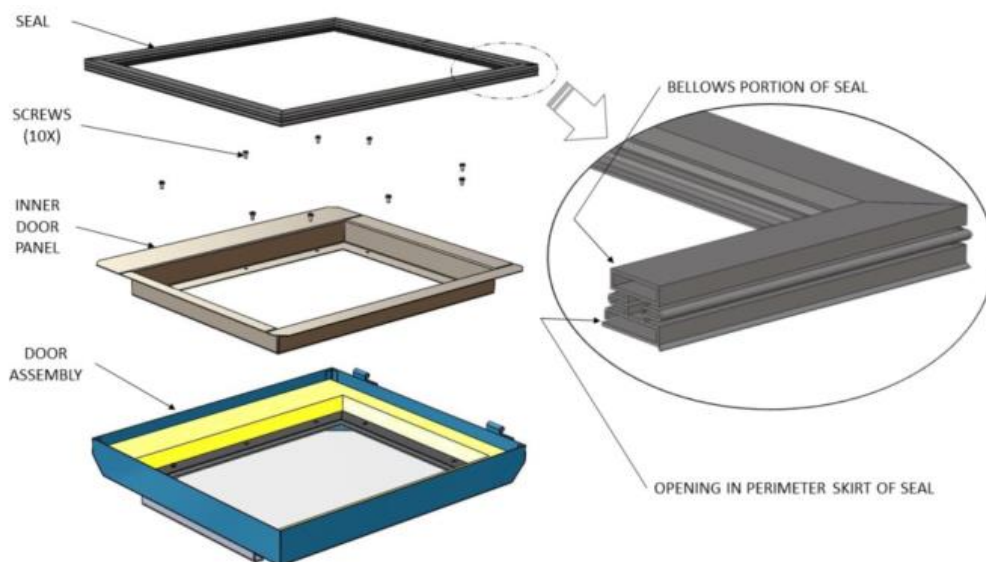

Figure 6.1. Door Seal
- To replace the seal, first check orientation as shown in Figure 6.1. The expanding bellows portion of the seal must face up, farthest from the window. Insert one corner of the door panel into the opening formed by the perimeter skirt. Stretch the seal, working around the perimeter to fit it back on to the panel edge.
- Replace all (10) screws loosely, then gradually tighten them in an alternating pattern to achieve even loading on the glass window.